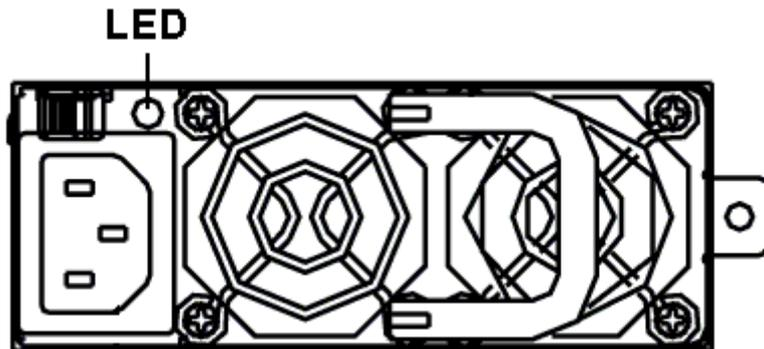

Figure 3-5: PSU Module Rear LED
The PSU module has one (1) LED located just above the power switch and just below the retention screw. (See *Figure 3-5*) The LED indicates the operational status of the PSU module. Please refer to *Table 3-7* for PSU LED definitions.